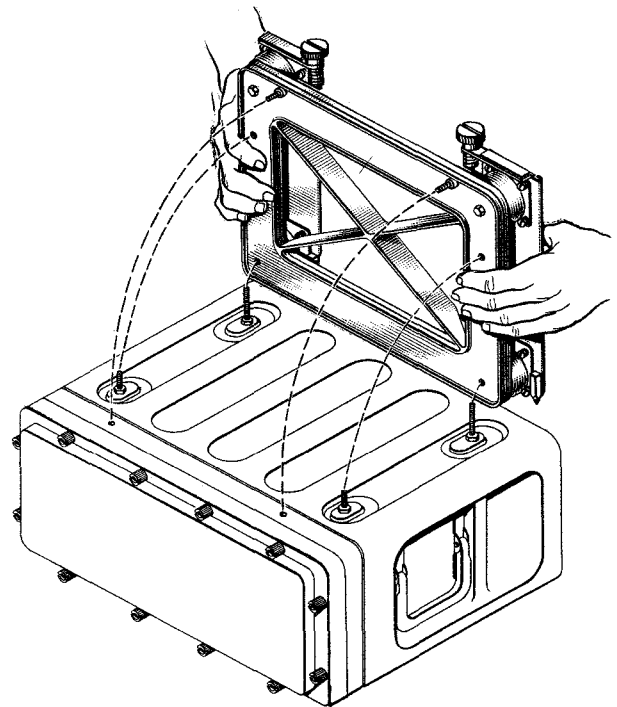

Figure 3-3. Attaching Shock Mount
Step 5. Grip the frame and slides as shown in Figure 3-3, hold the holes in the shock mounts in line with the holes in the frame, and place the assembly